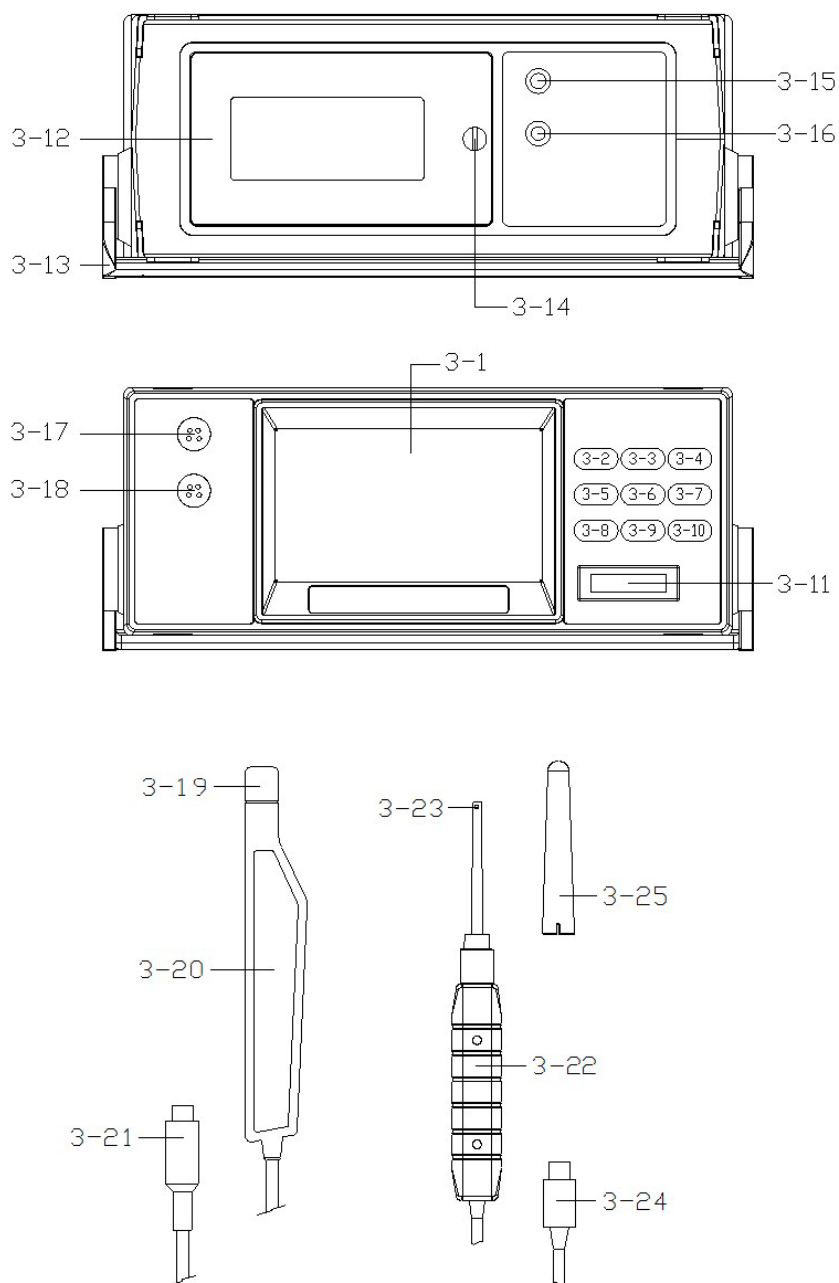

Fig. 1
1. Power ON the meter by pressing and holding the „Power Button“ (3-2, Fig. 1) for at least 2 seconds.
2. General magnetic field measurement Function by pressing the „Function Button“ (3-2, Fig. 1) to select General measure function.
3. General Probe Plug (3-23, Fig. 1) into the meter General Probe Input Socket (3-18, Fig. 1)
4. „DC“ or „AC“ measurement Function select by pressing the „AC/CD Button“ (3-8, Fig. 1) to select measure function DC or AC function .
5. Magnetic field measurement range select by pressing the „Range Button“ (3-5, Fig. 1) to select, Range 1 or, Range 2 .
6. Unit selection by press the „Range Button2 (3-5, Fig. 1) to select the unit mT or G.
- » Before the measurement, fix the probe at the exact position, by pressing and holding the "▲" (3-3 Fig. 1) & "▼" Button (3-9 Fig. 1) continuously at least 1.5 seconds until the display shows „0" value, then release the finger from the button, if want to zero value > 40 count the display will show „Error", then back to normal value.
1. Power ON the meter by pressing and holding the „Power Button" (3-2, Fig. 1) for at least 2 seconds .
2. Precision magnetic field measurement Function by pressing the „Function Button" (3-2, Fig. 1) to select Precision measure function.
3. Precision Probe Plug (3-21, Fig. 1) into the meter Precision Probe Input Socket (3-17, Fig. 1).
4. „DC" or „AC" measurement Function select by pressing the „AC/CD Button" (3-8, Fig. 1) to select measure function DC or AC function.
5. Select the magnetic field measurement range by pressing the „Range Button" (3-5, Fig. 1) to select Range 1 or Range 2.
6. Unit selection by pressing the „Range Button" (3-5, Fig. 1) to select the unit micro Tesla or milligauss.
2. Power ON the meter by pressing the „Power Button“ (3-2 Fig 1) once.
3. Select the unit (mG or uT) by press the „UNIT Button“ (3-5 Fig 1) once.
2. For precision DC magnetic field measurement it should those „not zero“ value (existing environment earth's magnetic field value) at first. Before the measurement, fix the probe at the exact position, by pressing and holding the „▲“ key (3-3, Fig. 1) continuously at least two seconds until the display shows „0“ indicator then release the finger from the button.
- » Press the „Zero Button“ (3-5, Fig 1) continuously at least 2 seconds the „0“ indicator will be disappeared and the Display will return to the value „no zero“ (show the environment magnetic field).
During the measurement, press the „Hold Button“ (3-3, Fig. 1) once will hold the measured value & the LCD will display a „HOLD“ symbol.
1. The data record function records the maximum and minimum readings. Press the „REC Button“ (3-4, Fig.1).
- a. Press the „REC Button“ (3-4, Fig. 1) once, the „REC MAX“ symbol along with the maximum value will appear on the display.
- b. Press the „REC Button“ (3-4, Fig. 1) again, the „REC MIN“ symbol along with the minimum value will appear on the display.
Prepare an „SD memory card“ (1 G to 16 G, optional), insert the SD card into the „SD card socket“ (3-11, Fig. 1). The front panel of the SD card should face against the the down case.